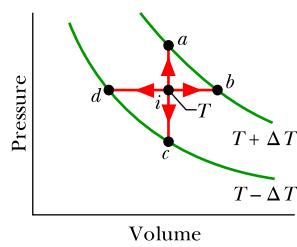

Figure 20.1 Question 1.
- 1 Point i in Fig. 20.1 represents the initial state of an ideal gas at temperature T . Taking algebraic signs into account, rank the entropy changes that the gas undergoes as it moves, successively and reversibly, from point i to points a , b , c , and d , greatest first.